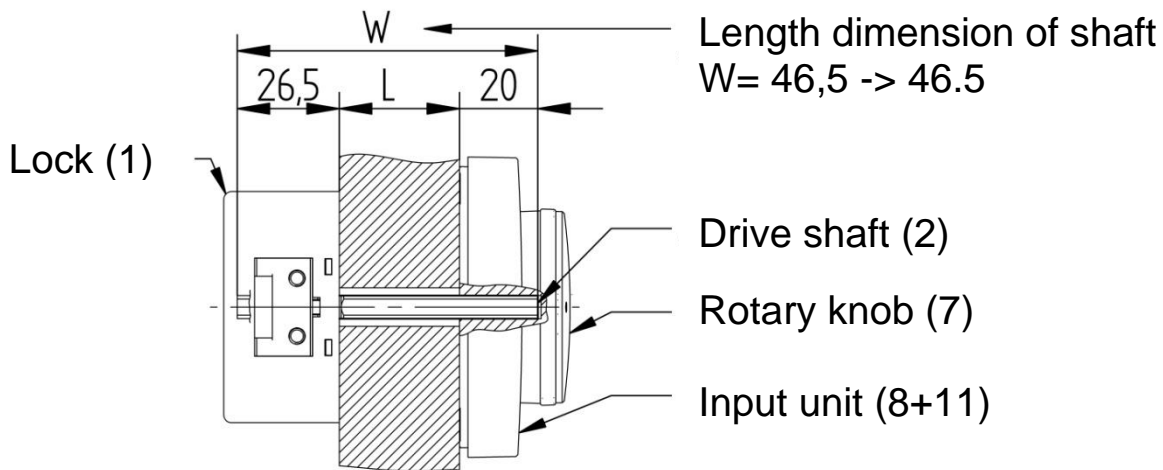

Figure 32: Required length of the drive shaft
In addition to that, another cutout is required in the cabinet door, used as cable passage for the connecting cable (12) between lock (1) and input unit (8 + 11). The size of the cable passage hole must not be more than 100 mm² (e.g. a hole max. 11.25 in diameter), and the hole must be positioned within the area of Figures 32.
Depending on the door strength and the installation position, the drive shaft (2) included in the delivery must be adjusted to the required functional length, in order to guarantee proper functioning of the locking system. The required length dimension W is obtained from the distance L between the lock mounting plane and the input unit mounting plane + 20 mm immersion depth into the input unit + 26.5 mm immersion depth into the lock (tolerance +0/-2 mm, see Figure 32).